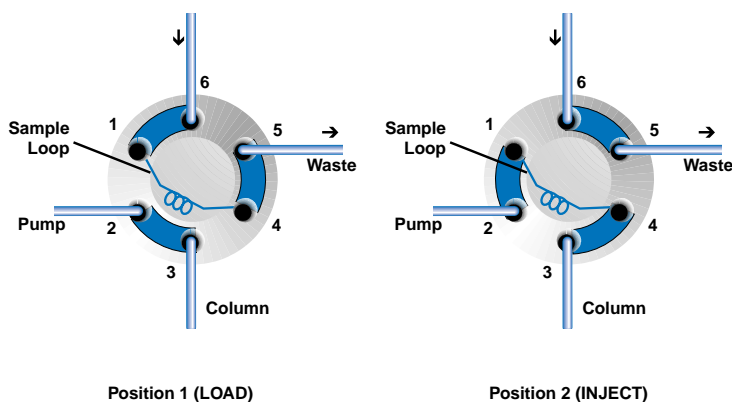

Fig. 8. Injection valve flow path as viewed from stator.
- (1) Plumb the six-port valve, used as an injection valve, as diagramed in Figure 8. Connect a sample loop (not supplied) between Ports 1 and 4. Before connecting the column to the valve, flush mobile phase through the valve in both positions. After flushing the valve, turn back to Position 1 (LOAD) and connect the column.
- (2) If the valve is used as a switching valve, refer to the various applications shown in Appendix B: “Typical Two-Position LabPRO Applications.”